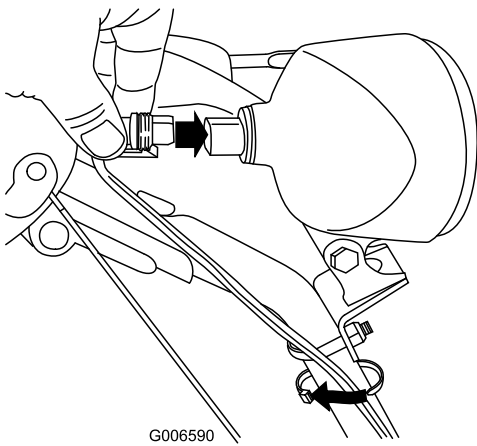

Figure 59
6. Insert the wire connector straight into the back of the headlight until it is securely in place (Figure 59).